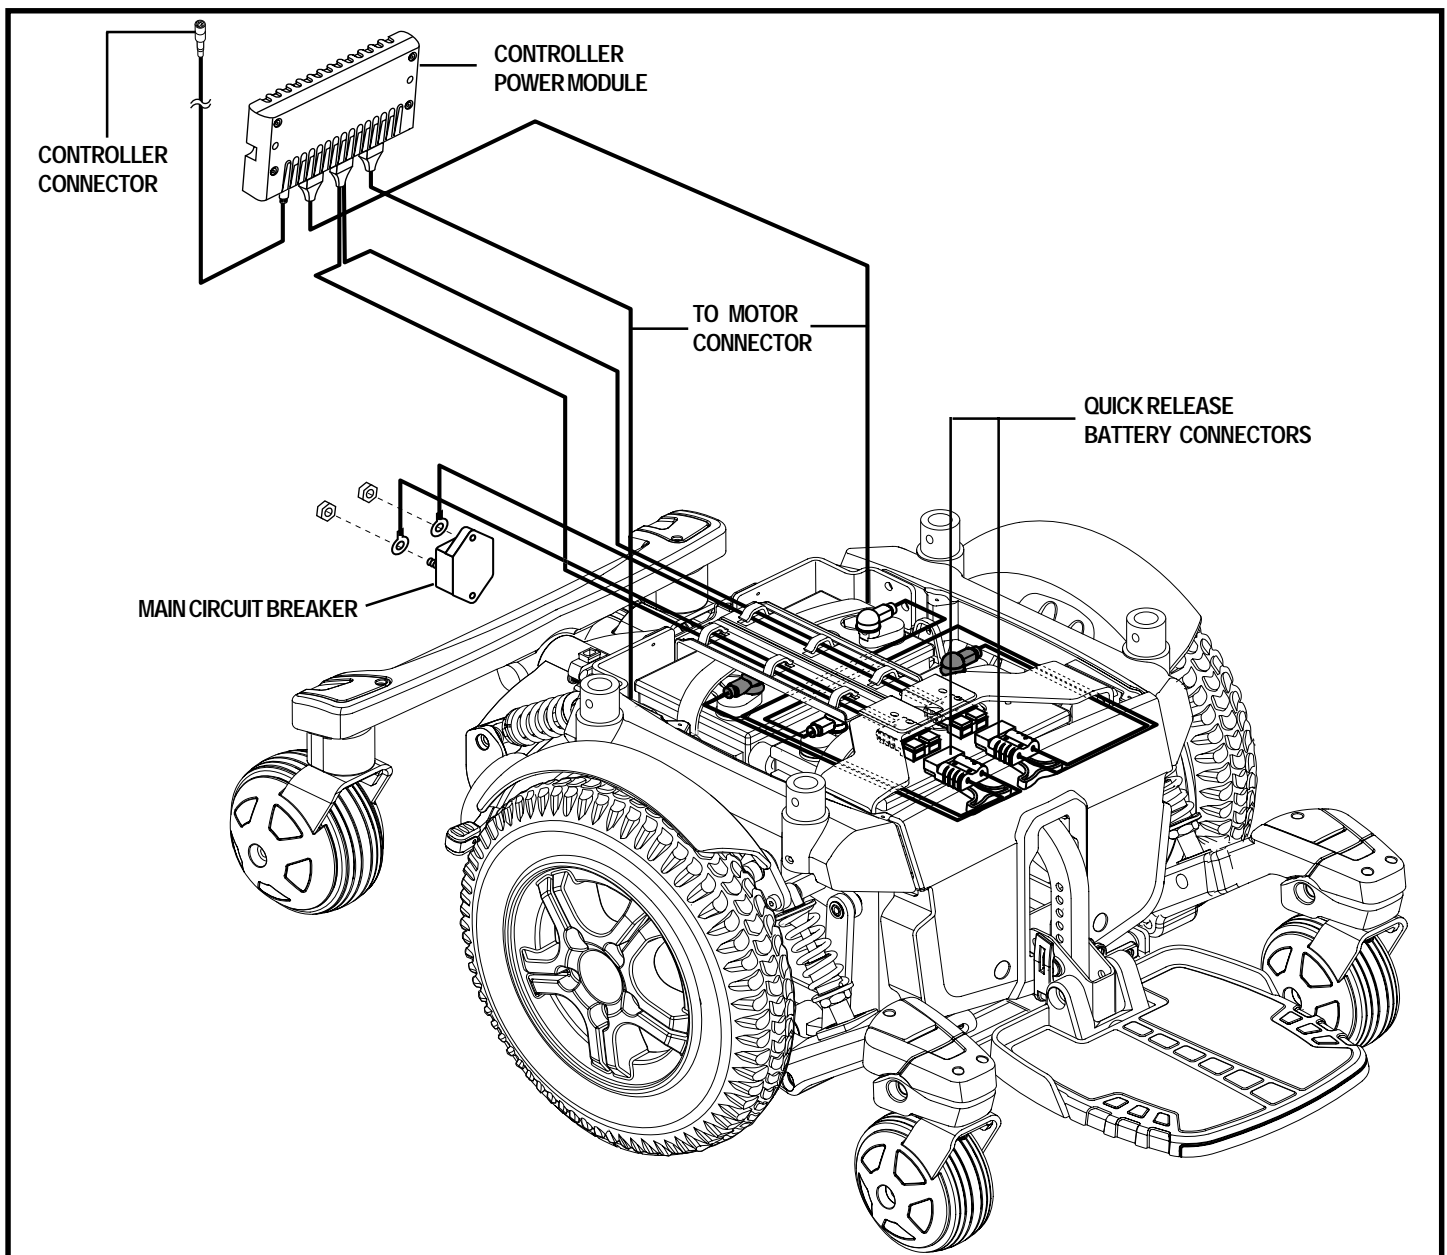

Figure 7. Quantum 6000 XL Electrical Components
The electrical components consist of the controller assembly, the batteries, and the motors. The batteries, motors, and controller power module (if equipped) are located on the power base assembly. The controller is located on the seat assembly. Connectivity between the controller and the motors, batteries, and the battery charger is provided by one or more wiring harnesses. See figure 7.
6. Plug the controller connector into the power base. See figure 7.
4. Disconnect the controller connector from the power base. See figure 7.